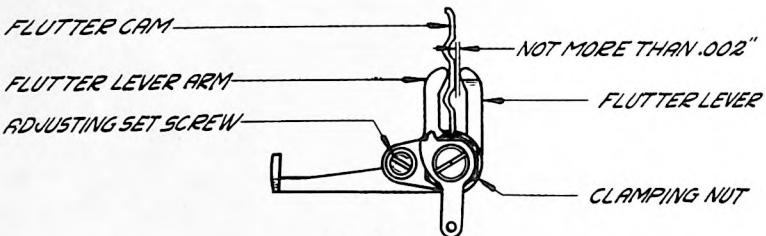

Fig. 3
5. FLUTTER LEVER GAP ADJUSTMENT (Figure 3)